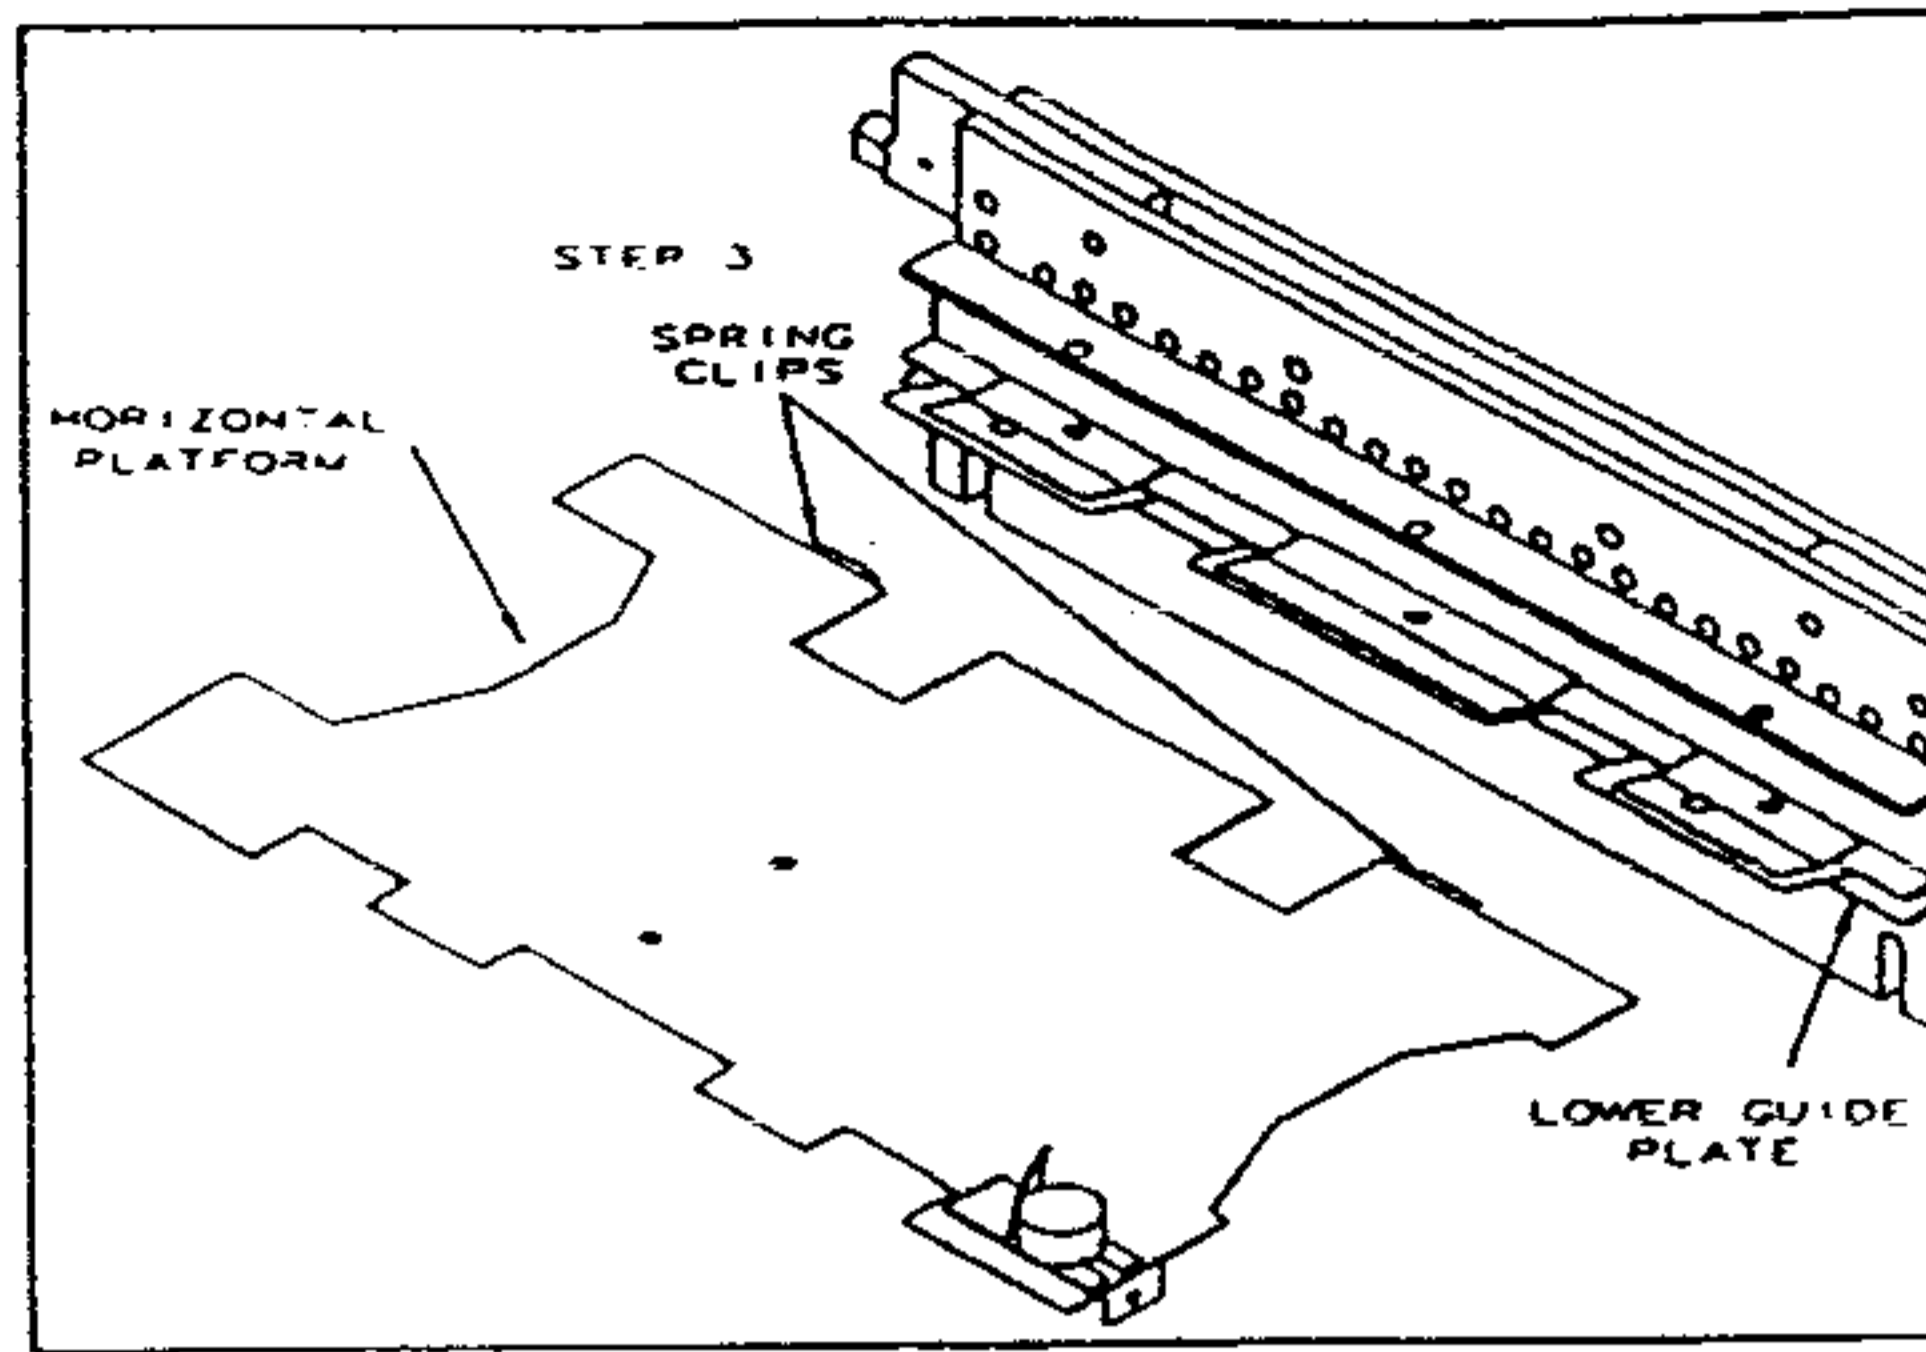

Figure 20
3. Carefully push the punch die slightly in the direction of the Output Stacker, and observe the two (2) spring clips attached to the bottom of the horizontal platform. Also observe the three (3) sections of the horizontal platform that are separated by the two (2) red rollers. Then push the punch die toward the horizontal platform. Engage it so the two (2) spring clips are under the die's lower guide plate and the three (3) sections separated by the red drive rollers are over the die's lower guide plate. You may have to pull up slightly on the horizontal platform to allow the three (3) sections to slip over the die's lower guide plate. Make sure the spring clips remain under the guide plate as you do this. (See Figure 20)